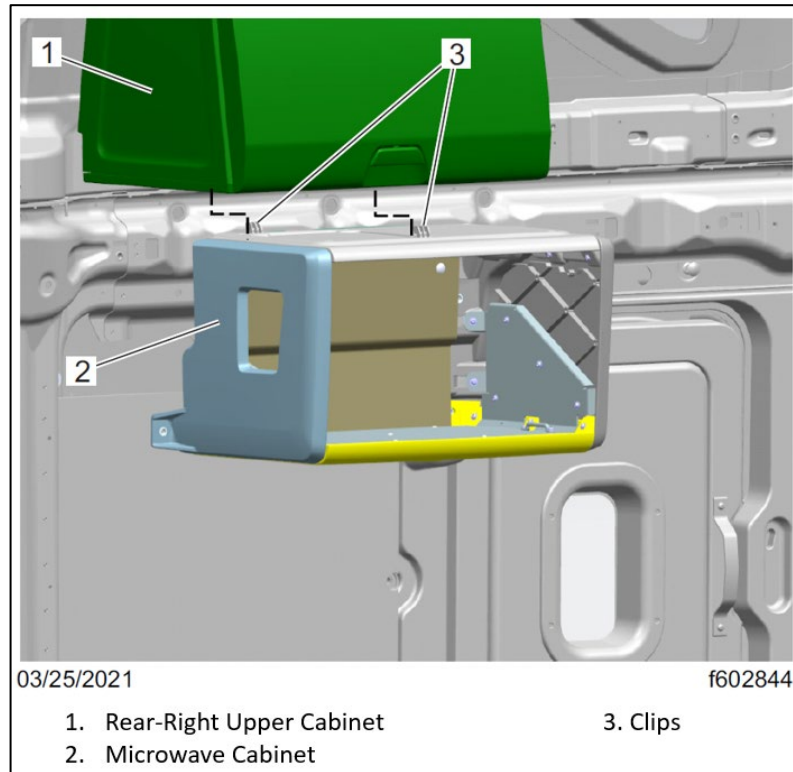

Fig. 40, Engage the Microwave Cabinet Clips
17.1. Attach the microwave cabinet clips to the rear-right upper cabinet. See Fig. 40.